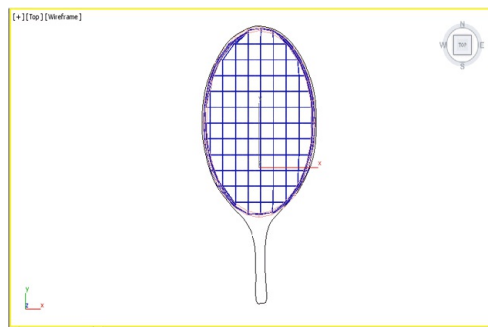

Figure 12-81 *A line created around the racket head*
4. In the Top viewport, click and drag the cursor to create a line around *racket head*, as shown in Figure 12-81.